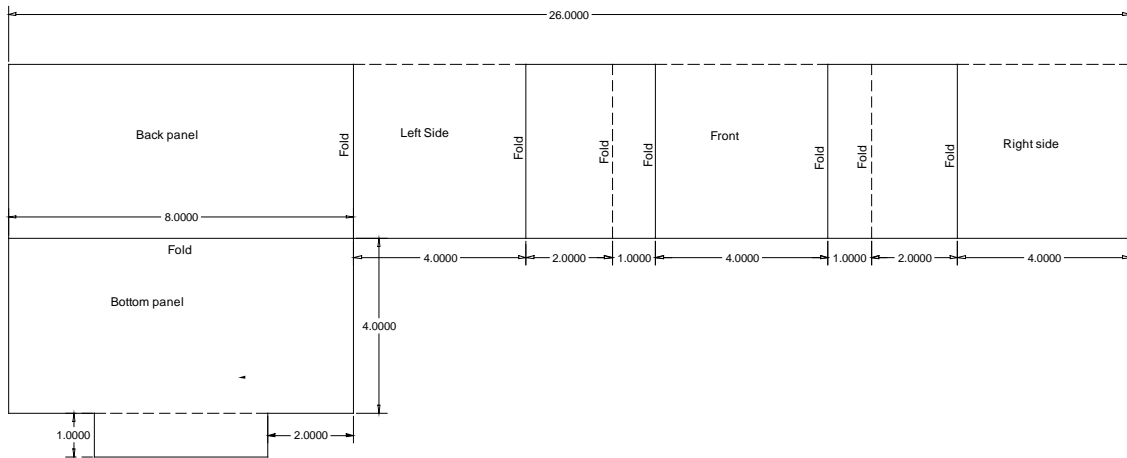

Figure 8.6
5. Carefully, mark off the newly drawn line using the same measurements in order, 8", 4", 2", 1", etc... Connect these notches to create the corners of the model house. Extend the 8" "back panel" downward 4" to form the bottom panel. Measure 2" in from either side of this panel and create the 1" "bump out" that you see on the front elevation of the house. When you reach this point, your design should look like **Figure 8.6**. When folded properly, the base panel will be folded under and correspond to all the wall panels.